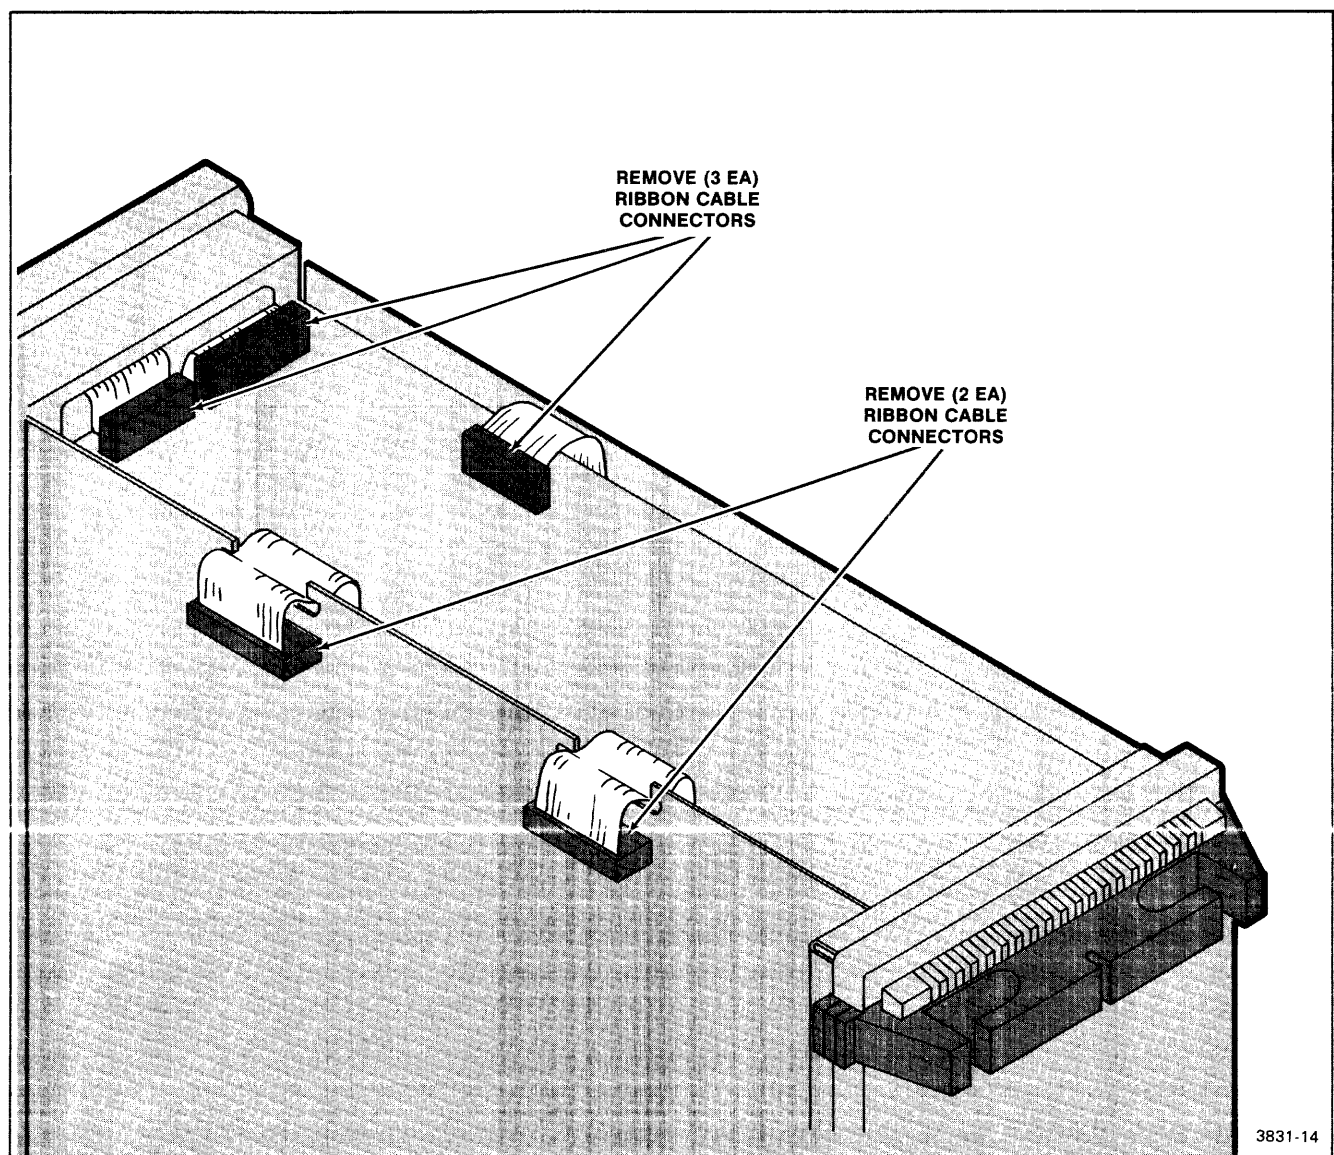

Figure 6-3. Ribbon cable removal.
3. Disconnect the three ribbon-cable connectors from the Control board (P251, P651, and P652) (see Figure 6-3).